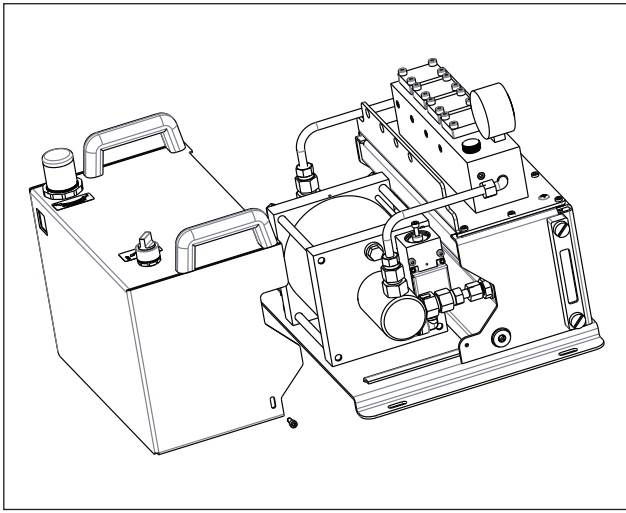

Figure 12 - Pump Shroud Removal
4. Remove the two screws located on either side of the pump shroud. Remove the pump shroud and position it behind the pump on the work surface. Be careful not to damage the flexible air tubing, which must remain connected. See Figure 12.